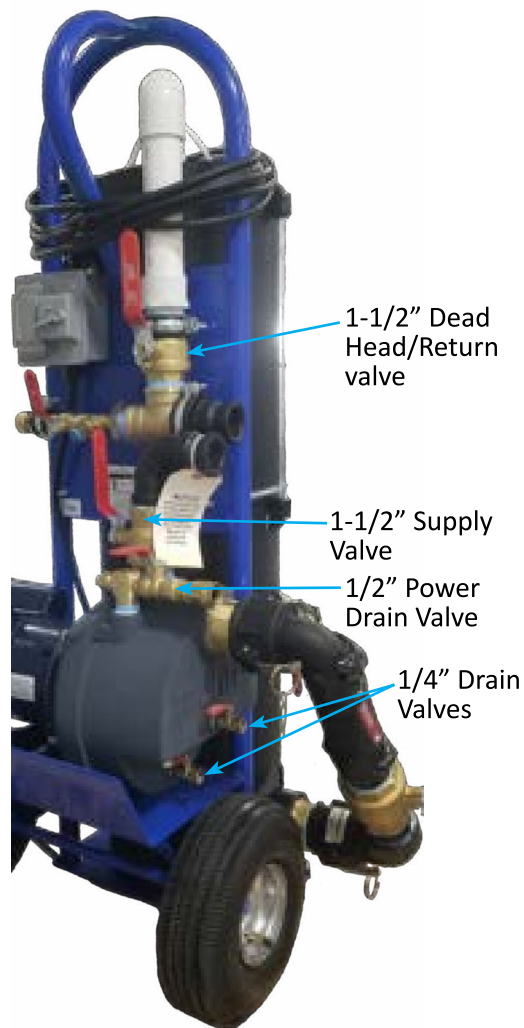
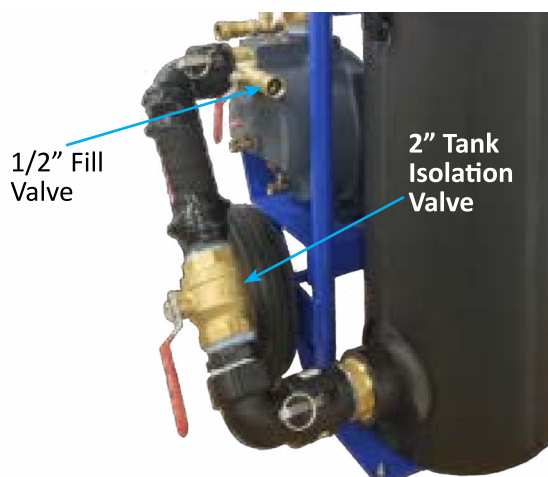

Figure 12: Flush Cart Valves in flushing steps
Figure 13: Fill Valve/Tank Isolation Valve
2. With the pump running, close the 1-1/2" dead head valve (Figure 12) and 2" tank isolation valve (Figure 13), and open the 1/2" fill valve (Figure 13).
4. When the pressure reaches 80-100 psig, close the 1/2" fill valve (Figure 13). Then, open the 1-1/2" dead head valve (Figure 12) and the 2" tank isolation valve (Figure 13) simultaneously.